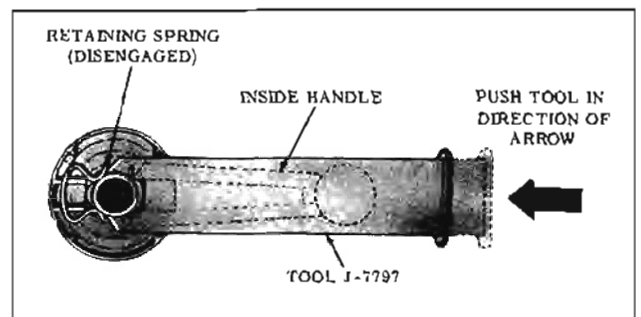

Fig. 16-27 Disengaging Inside Handle Spring
3. To install, position retaining spring on handle and bearing plate over regulator spindle. Position handle on spindle at same angle as handle on opposite door and push handle until spring is engaged. (Fig. 16-27)